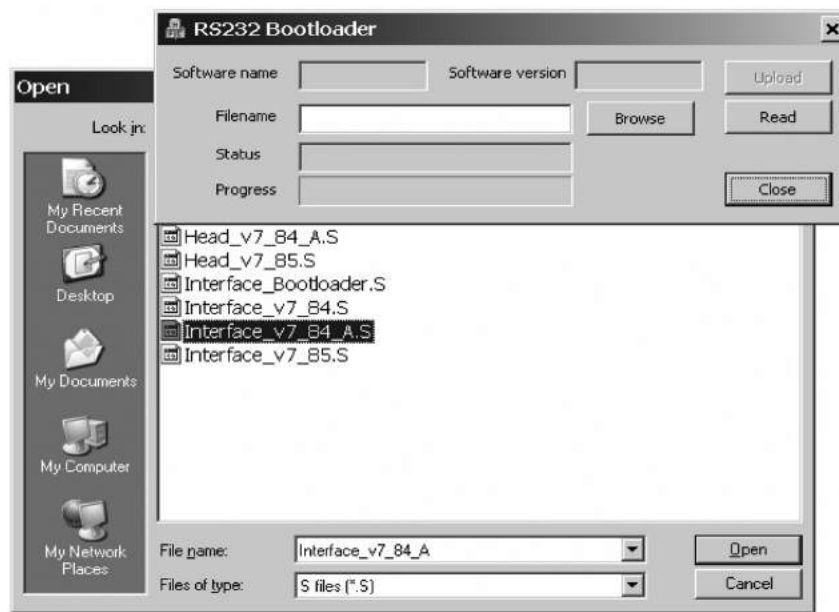

Figure 5.4-2. Interface Binary File Selection
5. Once the connection type is selected, press OK and the window to browse for the software filename will be displayed (see Figure 5.4-2).
7. The UPLOAD button will now be highlighted along with all the remaining fields being populated with the file information in the bootloader window (see Figure 5.4-2). Verify that the software version is the correct version to be uploaded, then press UPLOAD.
6. Once the connection type is selected, press OK and the window to browse for the software filename will be displayed (see Figure 5.4-2). Only this time make sure the filename refers to the Head software instead of the Interface board.
8. The UPLOAD button will now be highlighted along with all the remaining fields being populated with the file information in the bootloader window (see Figure 5.4-2). Verify that the software version is the correct version to be uploaded, and then press UPLOAD.